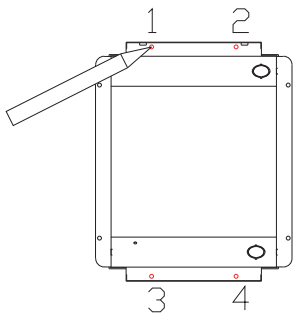

Figure 3.1
3. Install the protective casing: After securing the power cable and ensuring it is properly grounded, insert the protective casing into the hole you've just made. Mark four positions on the drywall (left side red circle) with a pencil. (See Figure 3.1)